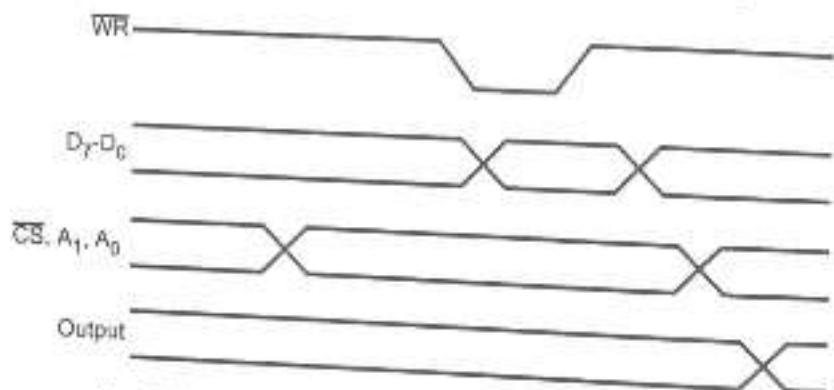

Fig. 3.4.7 Timing diagram for mode 0 output mode
- The status of bits D₄, D₃, D₁ and D₀ then determine (refer to Fig. 3.4.7) whether the corresponding ports are to be configured as input or output.
Output mode : Fig. 3.4.7 shows the timing diagram for mode 0 output mode,